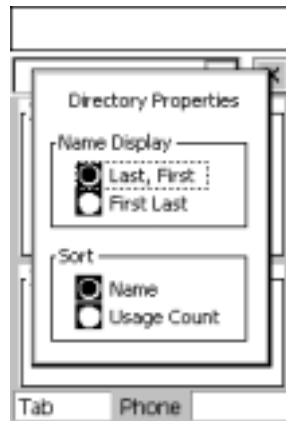

Figure 10. Directory Properties Screen
5. Press the **Send** key. The **Directory Properties** screen displays (see Figure 10).